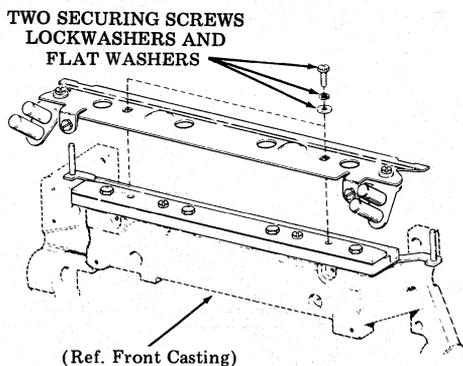

Fig. 42—Tear Bar Assembly
- (b) Remove the tear bar assembly by removing the two securing screws, lockwashers and flat washers (Fig. 42).
- (d) Reinstall the tear bar assembly (Fig. 42) and tighten the two securing screws while holding the tear bar assembly toward the rear of the unit.